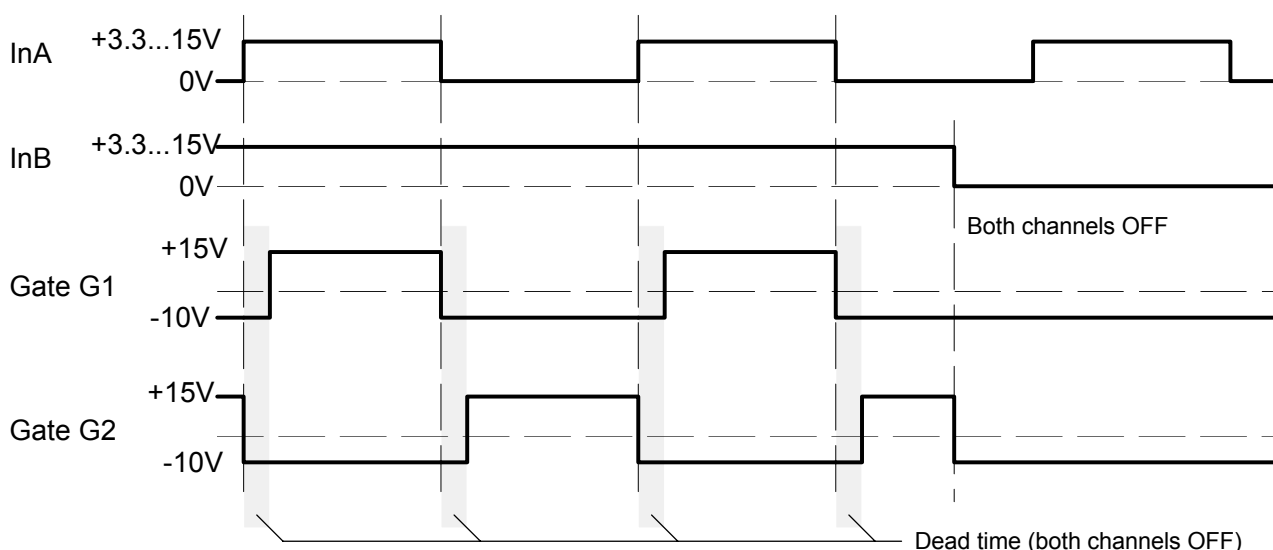

Fig. 6 Signals in half-bridge mode
If the MOD input is connected to GND with a resistor $71k < R_m < 181k$ and a capacitor (recommended value: $C_m = 22nF$), half-bridge mode is selected. In this mode, the inputs INA and INB have the following functions: INA is the drive signal input while INB acts as the enable input (see Fig. 6).
- The first mode is the default IGBT setup with both a positive (regulated) turn-on voltage of 15V (typical) and a second (non-regulated) turn-off voltage (see Fig. 6).
Each channel of the 2SC0650P driver is equipped with a V_{ce} monitoring circuit. The recommended external circuitry is shown in Fig. 6. A resistor (R_{thx} in Fig. 6) is used as the reference element for defining the turn-off threshold. The value of the current through R_{thx} is 150μA (typical). It is recommended to choose threshold levels of about 10V (R_{thx} values around 68kΩ). In this case the driver will safely protect the IGBT against short-circuit, but not necessarily against overcurrent. Overcurrent protection has a lower timing priority and is recommended to be realized within the host controller.